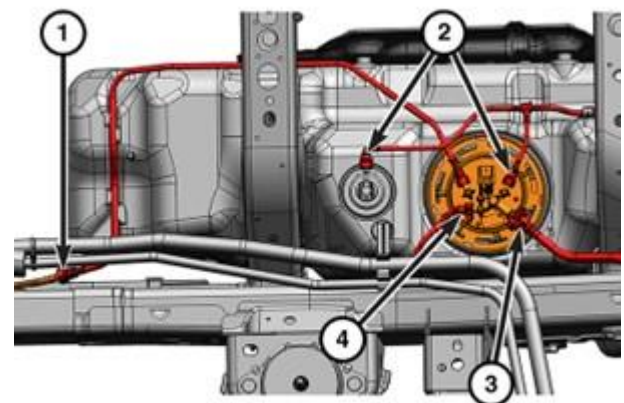

Figure 78 – Top View of Tank
- 138. Disconnect the return fuel line quick-connect fitting (1) at the front of fuel tank (Figure 78).
- 139. Disconnect the two fuel vent line quick-connect fittings (2) (Figure 78).
- 140. Disconnect the fuel supply line quick-connect fitting (4) (Figure 78).
- 141. Disconnect the fuel filler vent line quick-connect fitting (3) at the fuel pump module (Figure 78).